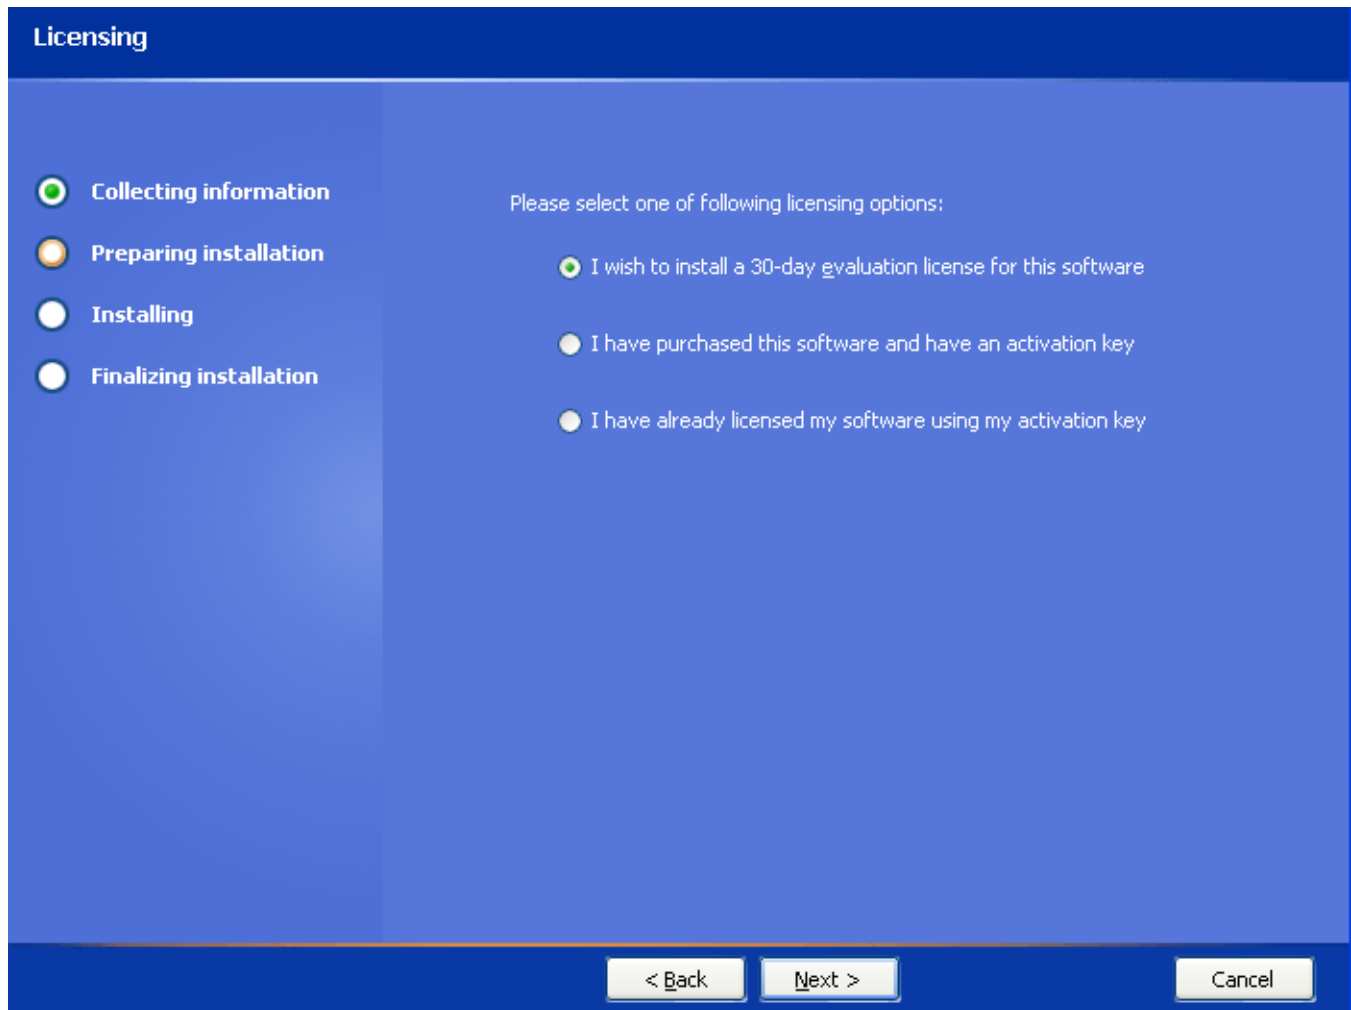

Figure 74 - Licensing Screen
16. Click on the **Next** button to accept the default password. The **Licensing** screen (Figure 74) appears.